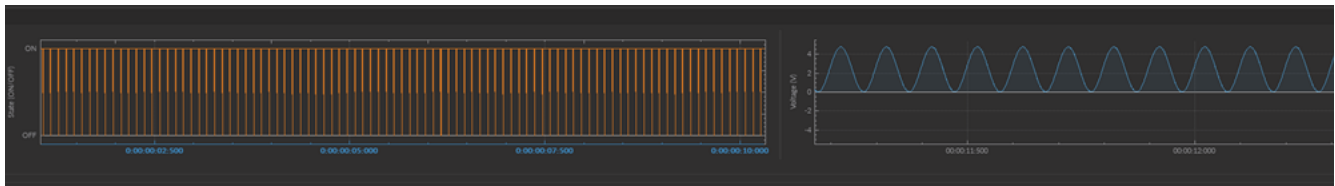

Figure 8.58: Acquisition View - Output graph
- Analog output channels display an **Active state** graph (Fig. 8.58, left panel). This graph displays whether the channel is outputting a signal (On, $V \neq 0$) or not (Off, $V=0$).
- Output channels display a **Preview** graph (Fig. 8.58, right panel), showing a preview of the pulse sequence.